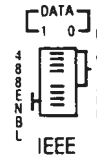

Figure 2.12 Data 1 0 Switches
If pulsed input commands are used, the pulse duration must be greater than .3 seconds. All inputs are leading edge detected and therefore may remain active until their function is again desired; they then must be turned off for a minimum of .3 seconds before being reactivated. All input lines share a common isolated reference input. This line is normally connected to the common side of the user's "CONTROL" power supply. If no external power source is available, a 10 volt DC power source is provided at the I/O RELAY module input connector J2. This power source should only be used to operate the input relays on the I/O RELAY module, and not as a power source for any other system needs. The common reference input line must be connected to GROUND if the internal power source is to be used. The contact closures used to activate the remote input lines are normally resident in the user's electronics system. A schematic is shown in Figure 2.12 for both types of remote input supply wiring.
- b. DATA 1 0 Switches (Figure 2.12) - Provide convenient device address setting and selection of the type of communications that are to be used. Switches marked DEV ADDR are used to set the address of the Sentinel III. Address range is 0-30 and in binary code.